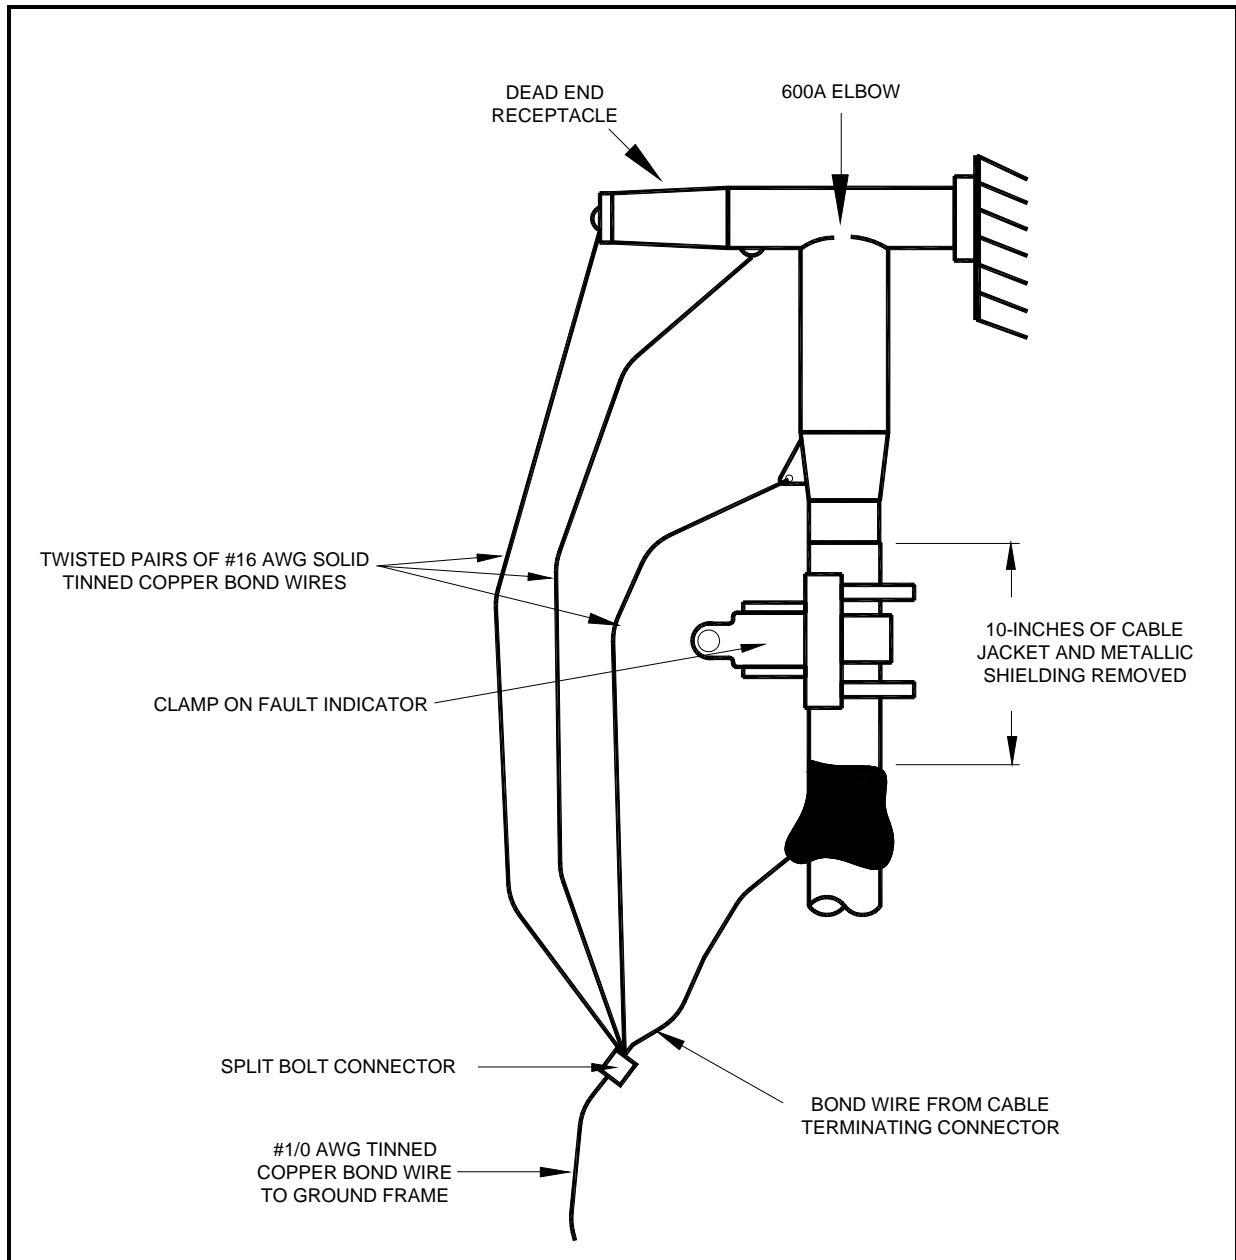

Figure 12 – 15kV Fault Indicator Installation
- 2.13 When fault indicators are to be used, install fault indicators on each of the 600 Amp main cables where the cable jacket and metallic shielding have been removed below the elbow, as shown in Figure 12.